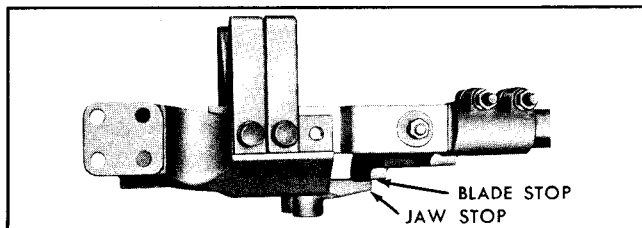

Fig. 5. Plan view of switch blade in fully closed position.
- a. The BLADE MOVING CONTACT STOP must come to rest on the JAW CONTACT STOP in order for switch to be fully closed, Fig. 5.